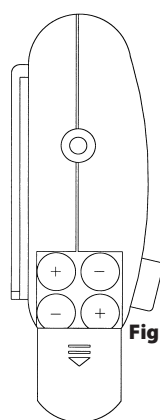

Fig. 2
2. Insert four (4) new "AA" batteries as pictured inside the battery compartment (see Fig. 2).